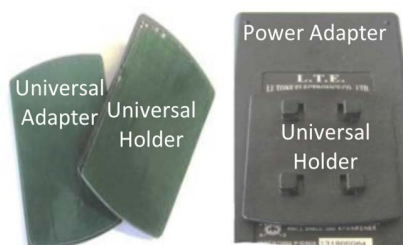

Figure 37. Universal Holder and Universal Adapter for Mounting the AC/DC Power Supply
- Remove the protective foil from the back of the universal holder and from the universal adapter. Connect the male universal holder to the center of the back of the main power adapter (see **Figure 37**).